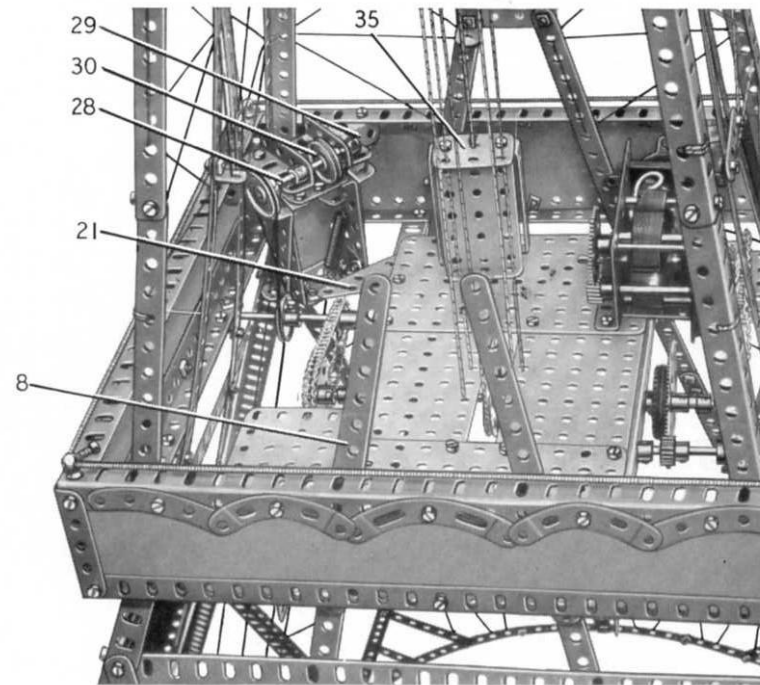

FIG. 7 Another view of the centre landing platform
The lift working to the centre platform is made by bolting 1½" Angle Girders to each end of a 2½" × 1½" Flexible Plate. A 2½" × 1½" Double Angle Strip (31) (Fig. 2) on each side is fixed between the Angle Girders, and a further 2½" × 1½" Double Angle Strip (32) is arranged on each side. The Double Angle Strips (31) and (32) are bolted together at the top and are connected by a Fishplate at their lower ends. The guides for this lift are provided by a length of Cord tied to one of the 2" Angle Girders bolted to girder (29) (Fig. 7). The Cord is passed through the lugs of one of the Double Angle Strips (32), through a 2½" × 1½" Double Angle Strip (33) (Fig. 2) bolted to the Hub Disc (6), and through the lugs of the other Double Angle Strip (32). The Cord is pulled tight and is tied to the second 2" Angle Girder. The lift-operating Cord is tied to a Fishplate bolted to the top 1½" Angle Girder of the lift and to a Tension Spring placed between the two Angle Girders; it is then taken over Pulley (30) (Fig. 7) and round two 1" Rods held by Spring Clips in Double Brackets (34) (Fig. 2). The Cord is then passed through the lower 1½" Angle Girder of the lift and is tied to the bottom loop of the Tension Spring so that the Spring is stretched slightly.